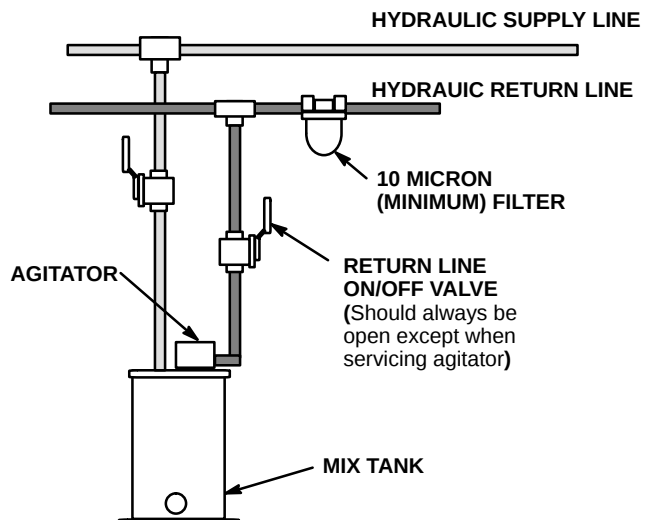

Fig 3
9. *For air and hydraulic models,* connect all lines. Hydraulic models must have a shutoff valve in both the supply and return lines. *See Fig 3.*